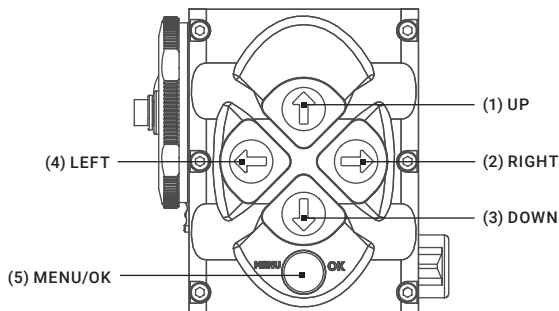
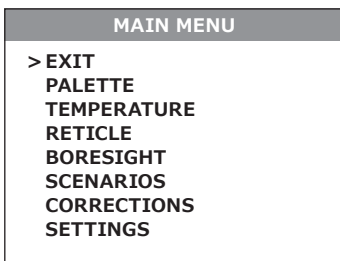

FIGURE 2-15. MAIN MENU NAVIGATION BUTTONS
FIGURE 2-16. MAIN MENU
To display the MAIN MENU, push and hold down the MENU button (5) on the control panel (Figure 2-15). Push and hold down the MENU button again to exit the menu.
Once the MAIN MENU is displayed (Figure 2-16), use the UP and DOWN buttons (Figure 2-15) to navigate through the items on the menu.